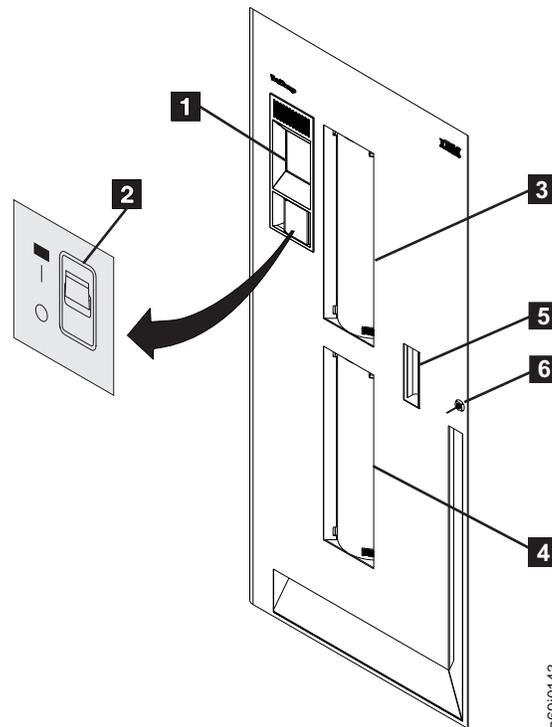

Figure 13. Front door of the TS3500 tape library. The operator panel is mounted on the front door of the base frame. A Model L22 or L52 is shown.
The operator panel (1 in Figure 13) is mounted on the front door of the base frame. Also located on the base frame's door are the power switch (2) and up to two input/output (I/O) stations (3 and 4). A door handle (5) and a keylock (with key) (6) are included on the front door of all frames (the keys to all front doors are interchangeable). To unlock and open the door of any frame, insert the key into the keylock and turn it counterclockwise approximately 180°.